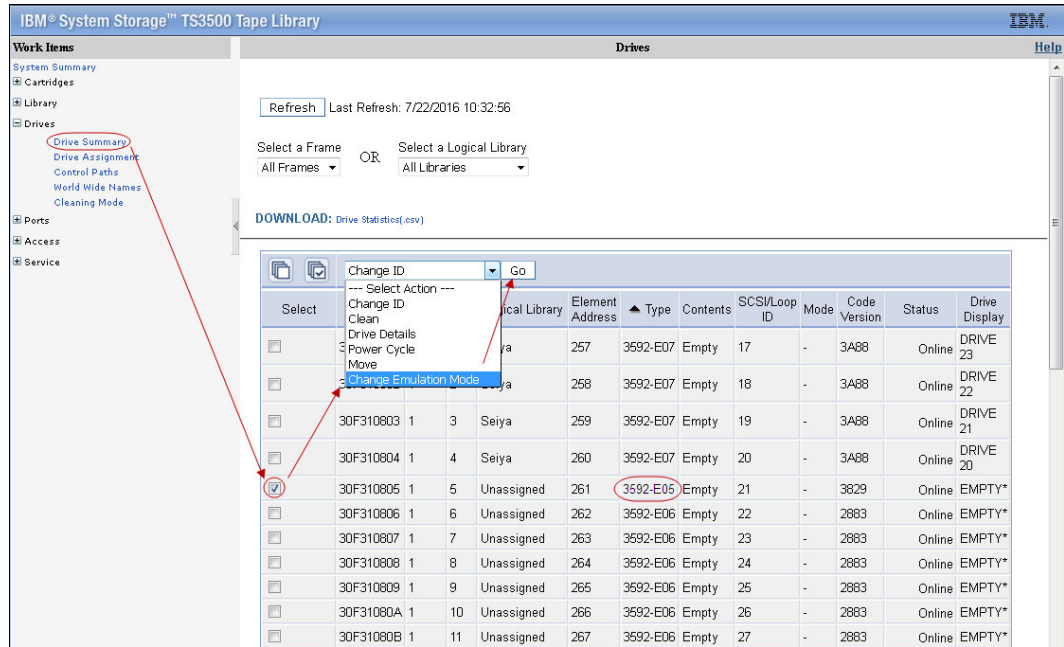

Figure 11-10 Change the drive emulation
- If necessary, change the drive mode to Native mode (3592-E05 only). In the Drives summary window, select a drive and select **Change Emulation Mode**, as shown in Figure 11-10.